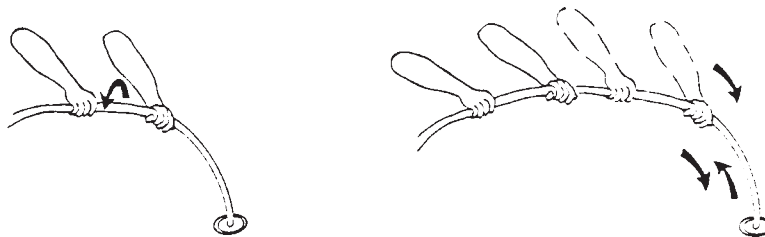

Fig. 8
14. If the water jet hose fails to advance even with the assistance of the pulsator, it may be necessary to pull off additional hose and twist the hose in a corkscrew-like manner. (See Fig. 8.)